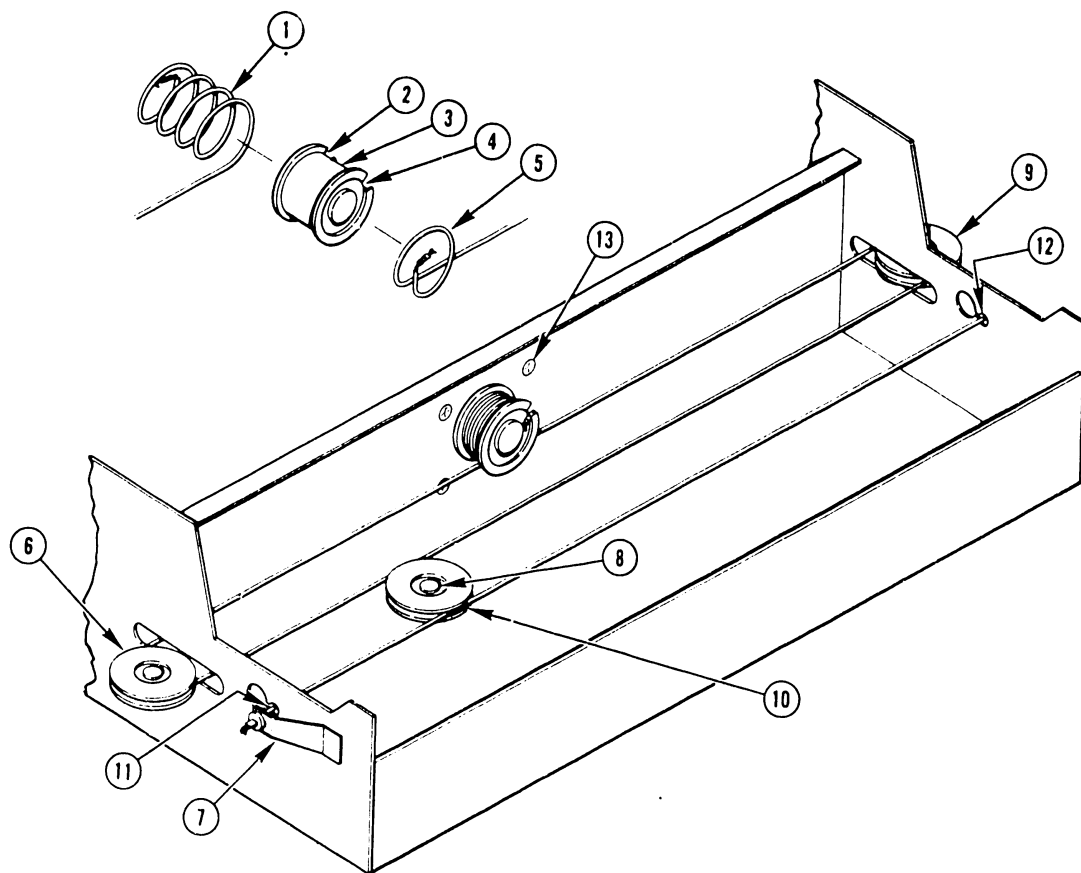

FIGURE 9-1 CARRIAGE CORD INSTALLATION
All figure references in this paragraph are to Figure 9-1 unless otherwise noted.
All Figure references in this paragraph are to Figure 9-1.
1. Remove two screws (7, Figure 9-1) holding cable spring(s) (7) and remove cable spring(s).
2. Remove carriage cords (1, 5, Figure 9-1) from pulley (10, Figure 9-1) below carriage assembly.
3. Remove carriage cords (1, 5) from carriage drive servomotor hub (3).
7. Remove four screws (13, Figure 9-1) holding carriage drive servo motor (35, Figure 9-3) to frame.
8. Remove carriage drive servomotor (35, Figure 9-3) with hub (3, Figure 9-1) attached from the rear of the printer.
1. Slide carriage drive servomotor (35, Figure 9-3), with hub (3, Figure 9-1) attached, into place in the printer and secure with four screws (13, Figure 9-1).
4. Move carriage assembly (8) to extreme right of printer.